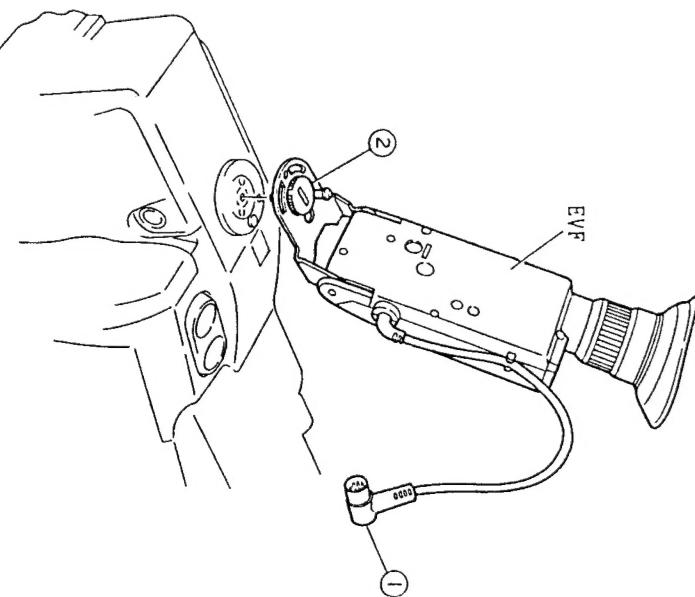

Fig. 2-2
(See Fig. 2-2).
2. Remove the EVF. (See Fig. 2-2)